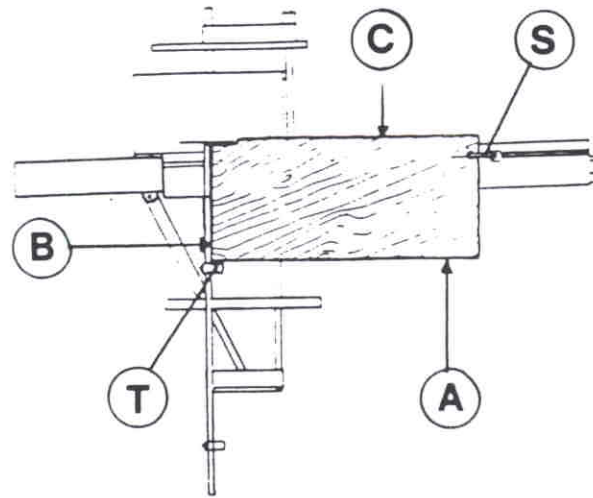

Fig. 43
- Turn panel 90° and rest side (B fig.43) you have now trimmed against the aluminium fence and side (A) against stop (T) positioned according to cutting measure, then carry out cut (C)